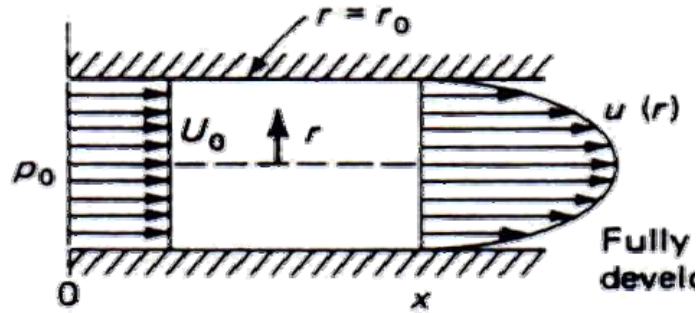

Fig. 4
4. For laminar flow in the entrance to a round pipe with the radius of r_0 , as shown in Fig. 4, the entrance flow is uniform, $u=U_0$, and the flow downstream at location x is parabolic in profile, $u(r) = C(r_0^2 - r^2)$. Assume the pressure distribution at location 0 is P_0 and at location x is P_x . P_0 and P_x are constant. At steady state, please determine